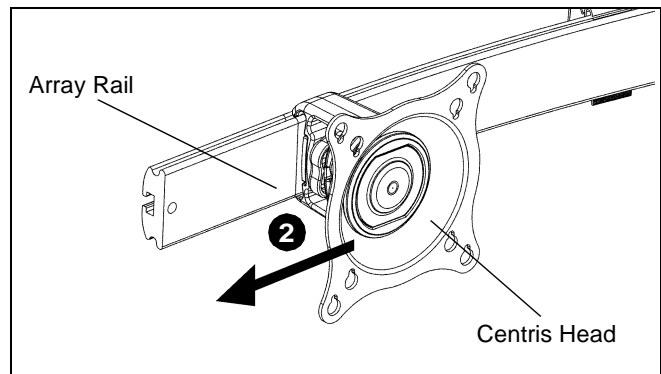

Figure 7
2. Remove Centris head from mounting rail. (See Figure 7)